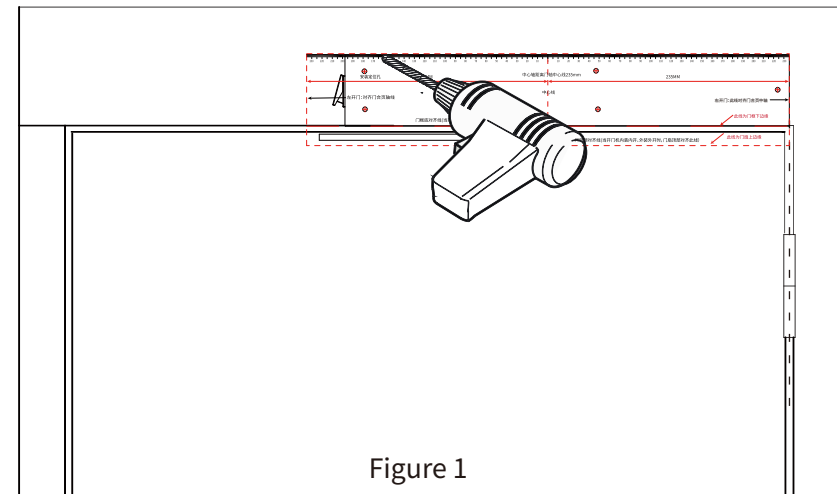

Figure 1
Step 1: according to the actual situation of the door body, open the screw hole position according to the hole drawing, as shown in Figure 1.